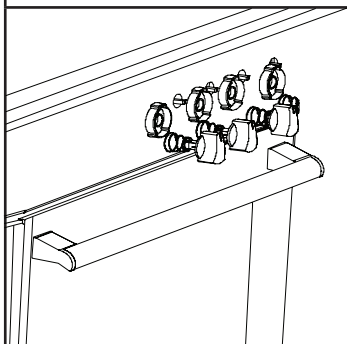

Figure 4
1. Put the cooker burners in a low position and pull out the cooker control knobs on the control panel (See figure 4).